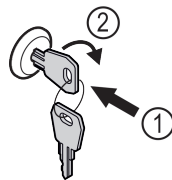

Fig. 104
- Insert key Fig. 104 (1).
- Turn key clockwise by 90° Fig. 104 (2).